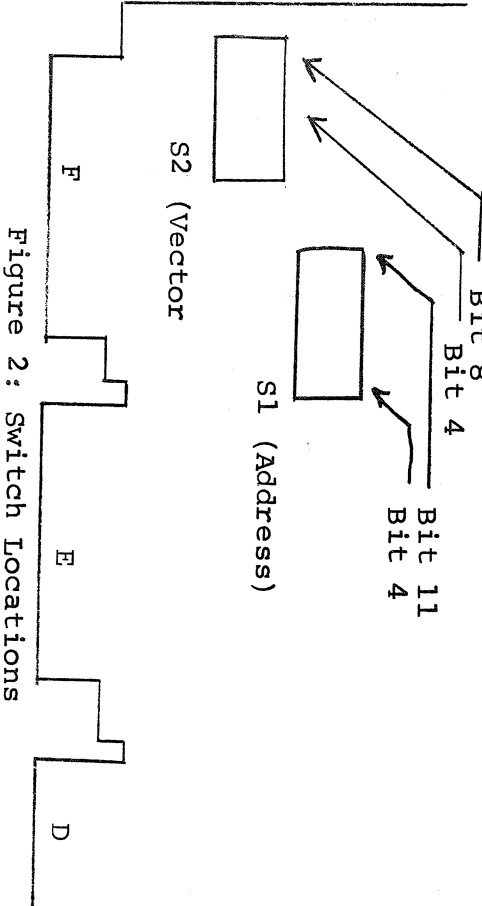

Figure 2: Switch Locations
3.2.2 Set up address switches (S1) per figure 1 and figure 2. Switches are set "on" for a 0 and "off" for a 1.
3.3.1 Set up vector switches (S2) per figure 2 and figure 3. Switches are set "on" for a 1 and "off" for a 0. (Note that this is opposite to the address switches.)